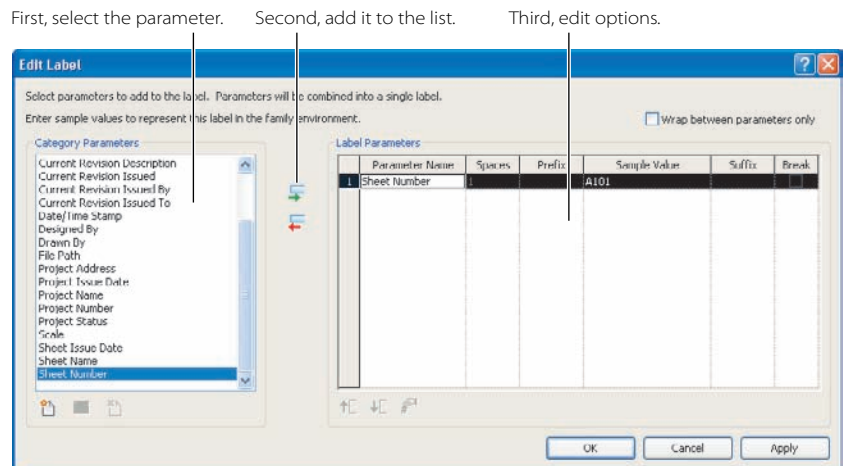

Figure 14.5
8. Click a point for the location for the sheet number. This will cause the Edit Label dialog box to open (Figure 14.5).
When you create a titleblock, you may need to display information in which Revit does not have a predefined parameter in the Category Parameters list, as shown in Figure 14.5. An example of this might be CONTRACT NO. Now you could populate the titleblock with the contract number by using the Text tool, but in the next example, you are going to use the Label tool. This will enable you to populate this information by filling out the Project Information fields. This information can be modified within a project by selecting the Manage tab's Settings panel and clicking Project Information. In the next steps, you will create the CONTRACT NO label.